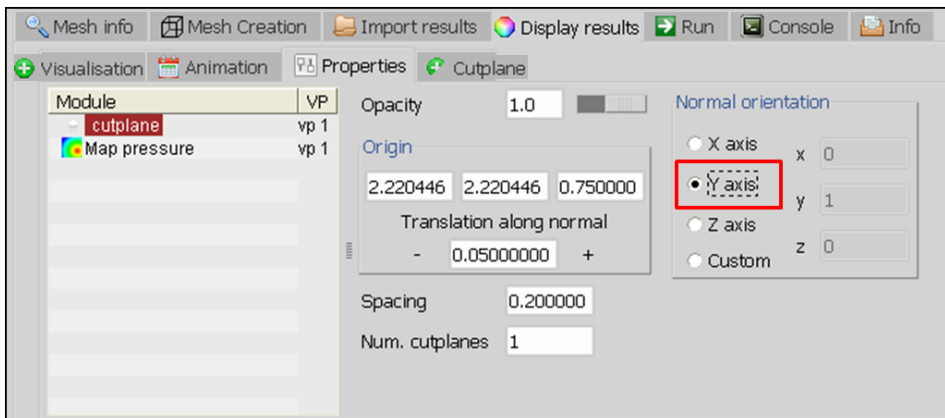

Figure 6.55: Change the properties of the cut-plane
- Change normal direction of the cut-plane from the X axis to the Y axis (Figure 6.55).